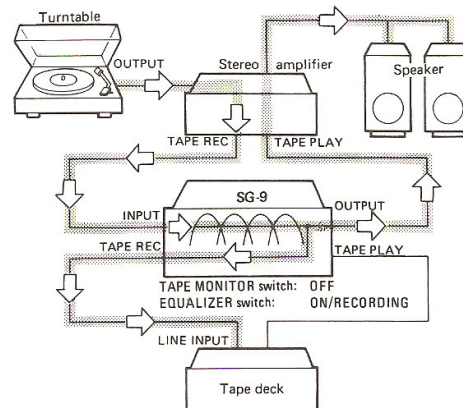

Fig. 9
**EQUALIZING PROGRAM SOURCE WHILE SIMULTANEOUSLY LISTENING WITH SPEAKERS AND RECORDING ON TAPE (Fig. 9)**